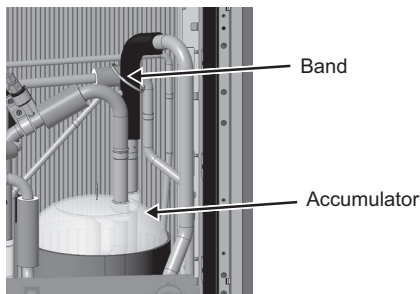

Fig. 6
- (7) Tighten the compressor securing bolts using a torque-setting tool. Recommended tightening torque is 3.0 N·m.
- (8) Install the compressor covers in the reverse order of removal.
*Ensure that the pipe and damper, and the pipe covers above the accumulator, are tied with bands. (Fig. 6)